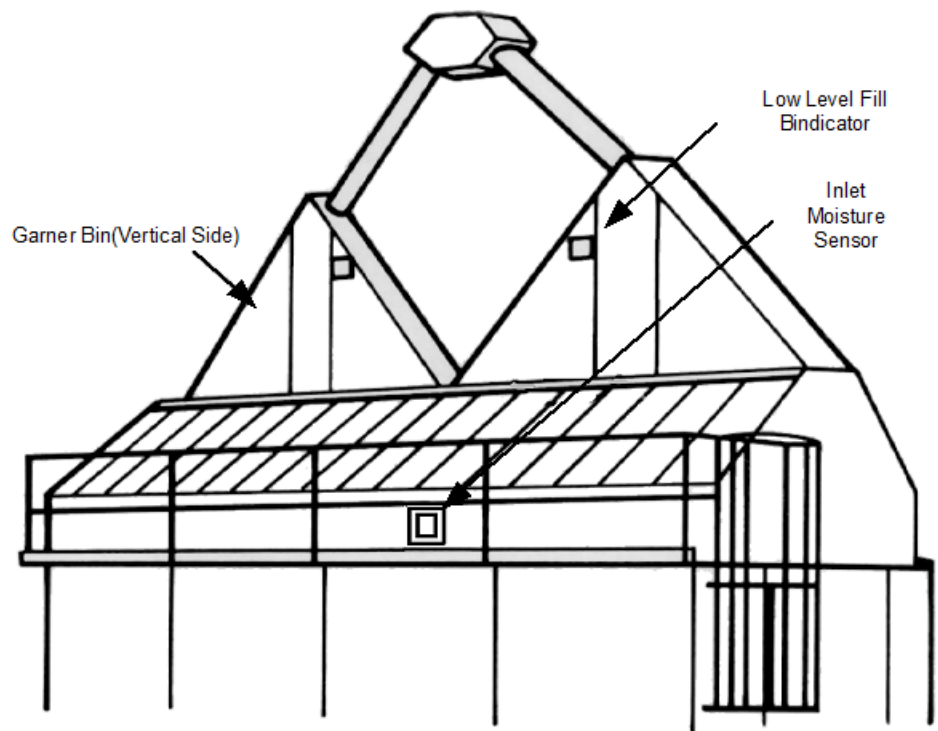
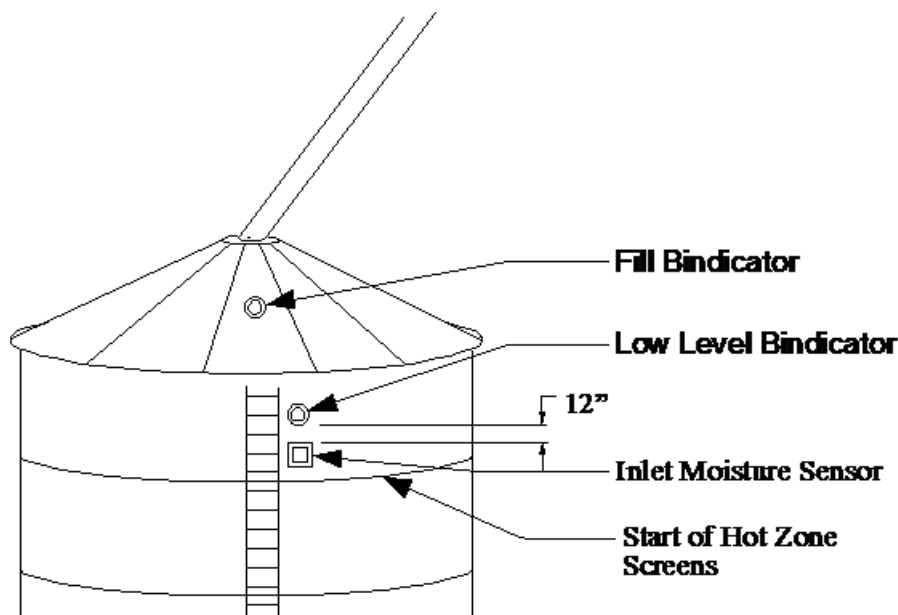

Figure 7 - Alternate location for inlet sensor on column dryer
Figure 8 - Installation location for round dryer
The Inlet Sensor should be placed vertically at the inlet to the grain dryer (in or near the garner bin). See Figure 7 - Alternate location for inlet sensor on column dryer and Figure 8 - Installation location for details.
1. Refer to Figure 7 - Alternate location for inlet sensor on column dryer and Figure 8 - Installation location.